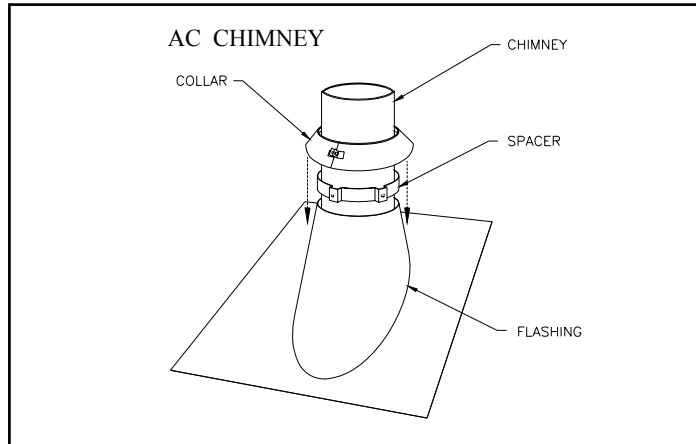

Figure 25
5. Then, put the roof flashing in place and seal the joint between the roof and the flashing with roofing pitch (see figures 25 & 26). For sloping roofs, place the flashing under the upper shingles and on top of the lower shingles. Nail the flashing to the roof, using roofing nails.